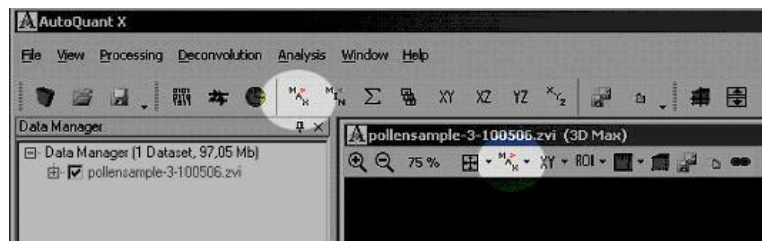

Figure 4. Selecting Maximum Projection
4. After deconvolution is done, choose MAX PROJECTION from main menu bar (or alternatively from image window bar) (Fig. 4). The deconvoluted image has been saved automatically to the data source folder as a rawfile.